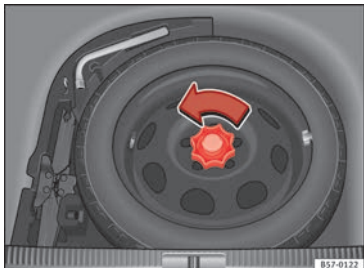

Fig. 228 Compact temporary spare wheel: raised floor panel.
- Turn the thumb wheel anti-clockwise » **Fig. 228.**